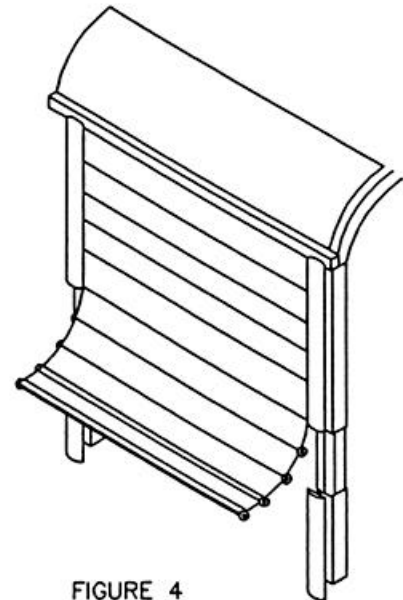

FIGURE 4
5. After track inserts are removed from both sides of bay, remove clamp from door track and pull door down and out through slots in track. (See Figure 4, page 5-7)
(See Figure 4, page 5-7)